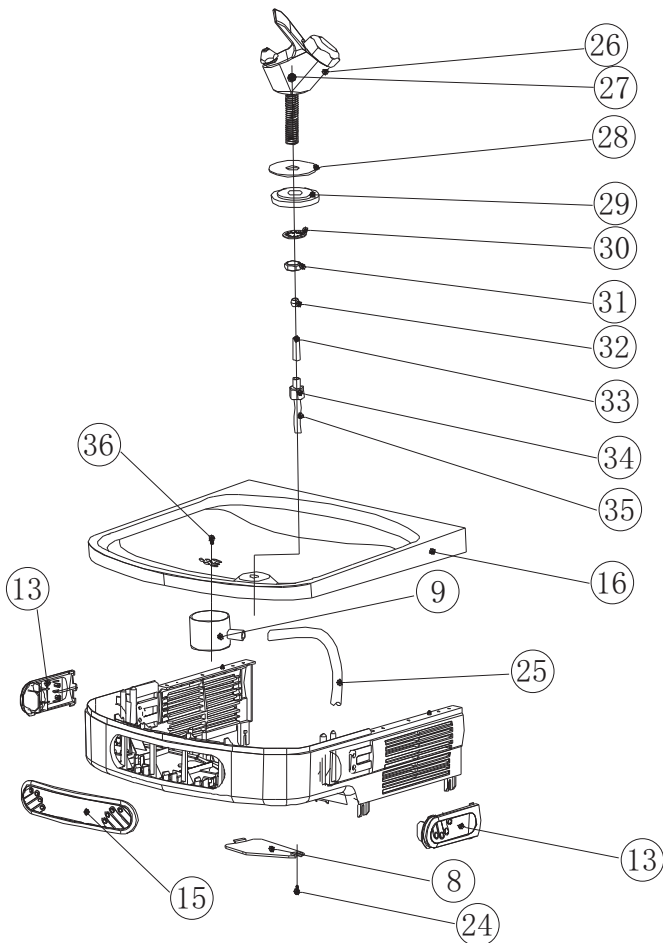
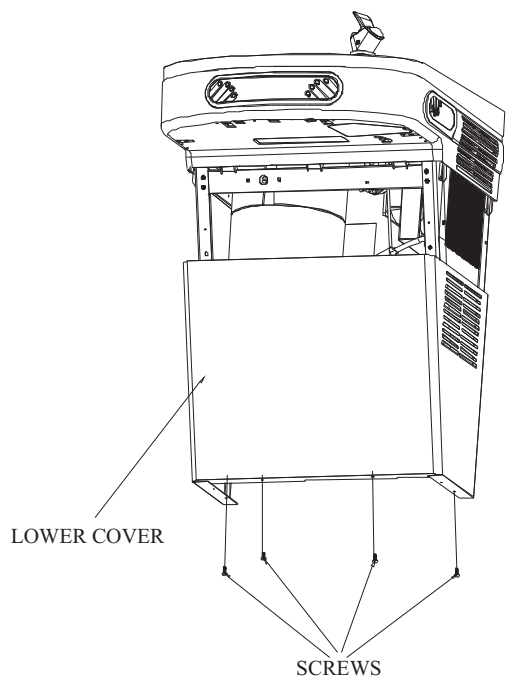

FIGURE 6
FIGURE 4
4) Remove the four (4) screws holding the lower front panel at the bottom of cooler. Remove the front panel by pulling straight down and set aside, SEE FIG. 4, FIG.5.
To access the refrigeration system and plumbing connections, remove four screws from bottom of cooler to remove the lower shroud. To remove the upper shroud for access to the pushbars, regulator, solenoid valve or other components located in the top of the unit, remove lower shroud, disconnect drain, remove four screws from tabs along lower edge of upper shroud, unplug two wires and water tube. SEE FIG.4, FIG.5 & FIG.6.